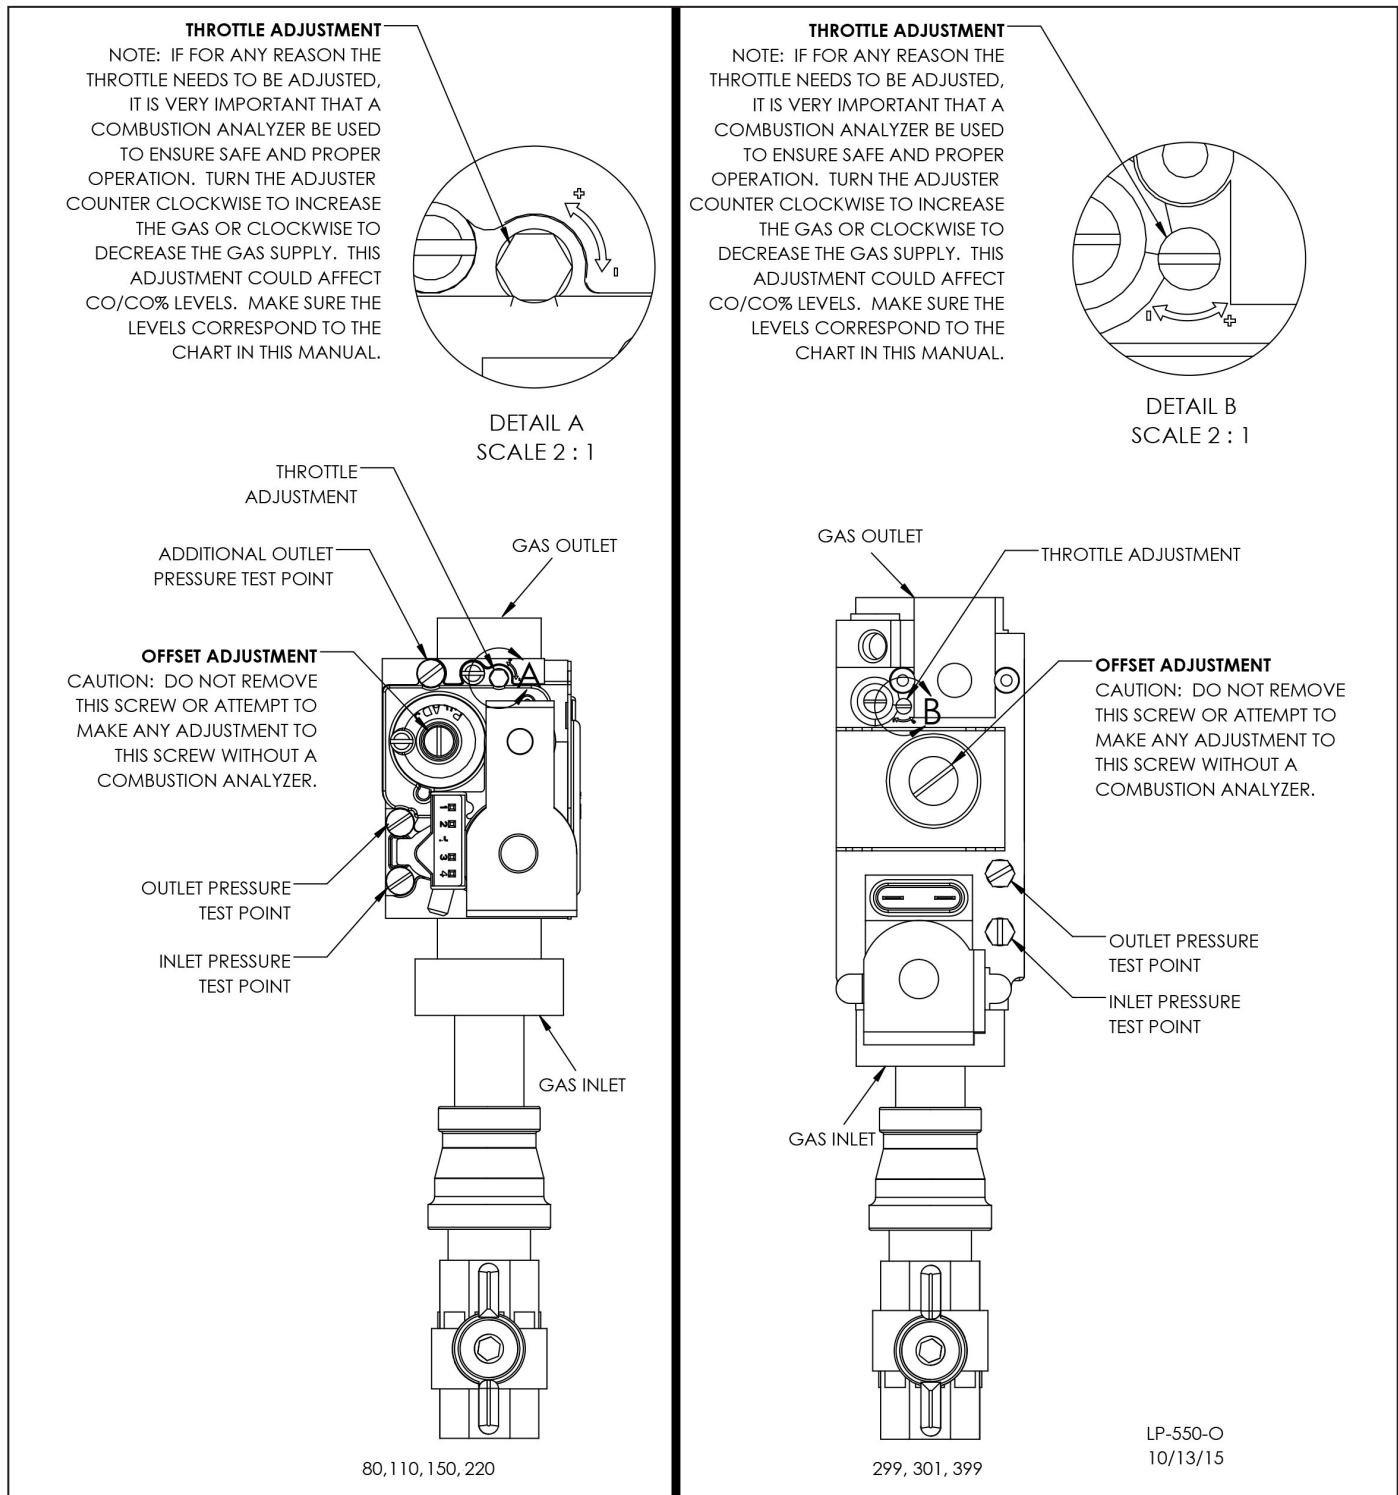

Figure 27 - Gas Valve
2. Loosen the pressure tap with a small screwdriver. Refer to Figure 27 for location.
3. Each unit is equipped with a needle valve that will accept a 5/16 ID hose to connect to a digital manometer or liquid gauge to measure incoming pressure from 0-35" w.c. See Figure 27.